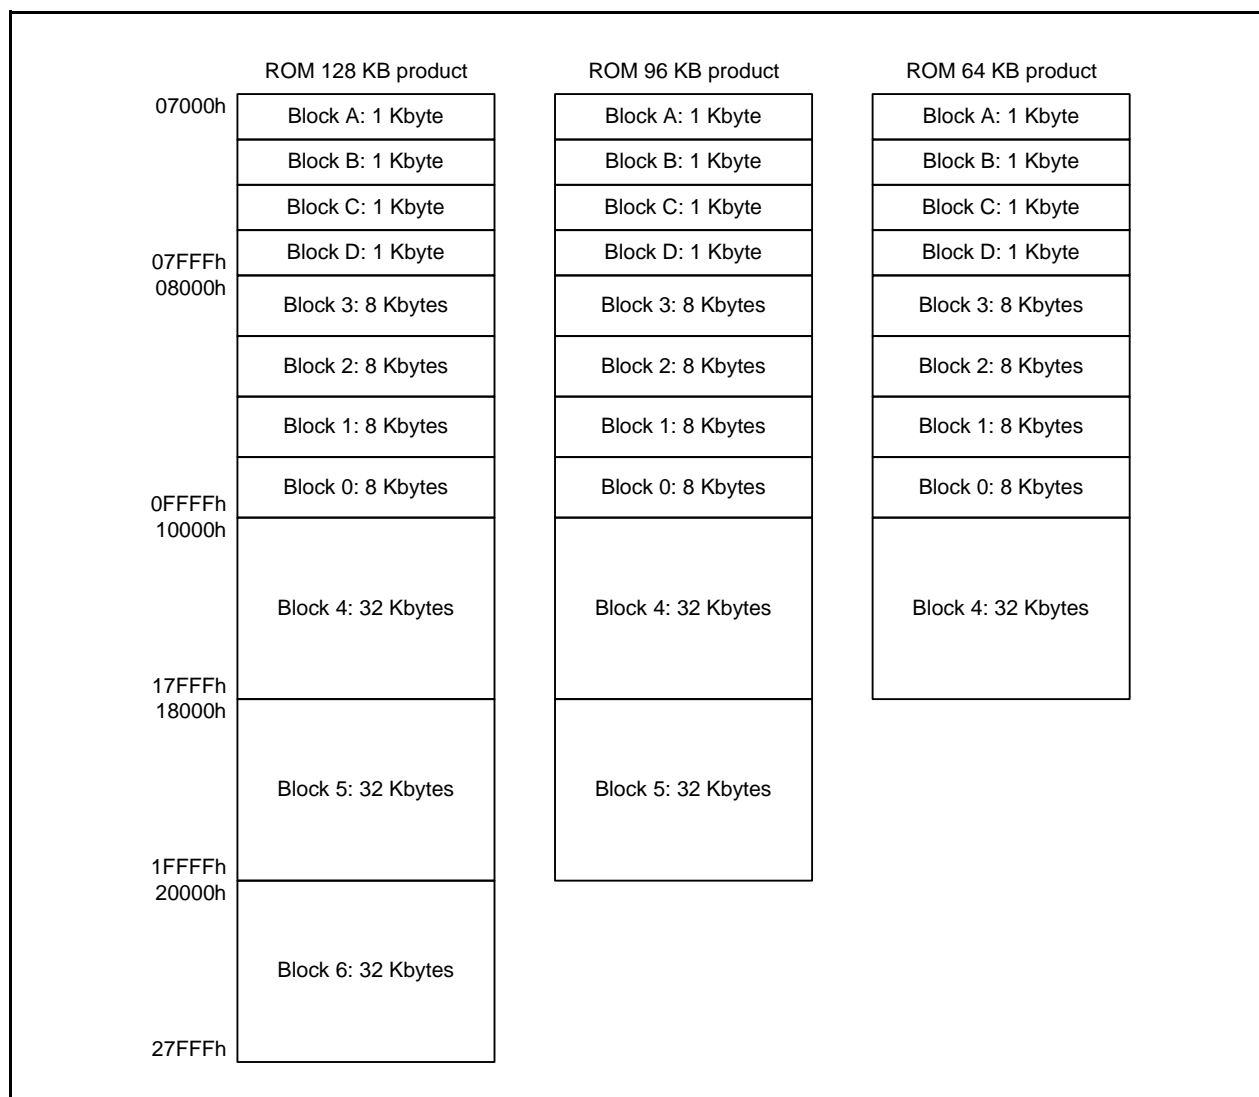

Figure 26.1 R8C/36T-A Group Flash Memory Block Diagram
2. The number of blocks and block division vary with the MCU. Refer to **Figure 26.1** for details.
Figure 26.1 shows the R8C/36T-A Group Flash Memory Block Diagram.